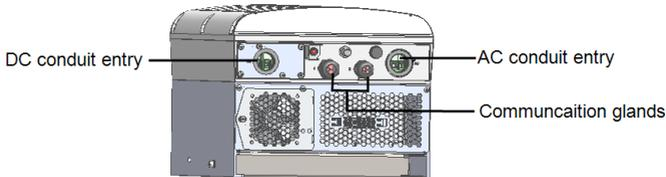

Figure 49: Primary Unit interface
1. Connect the DC, as follows, see *Figure 49*: